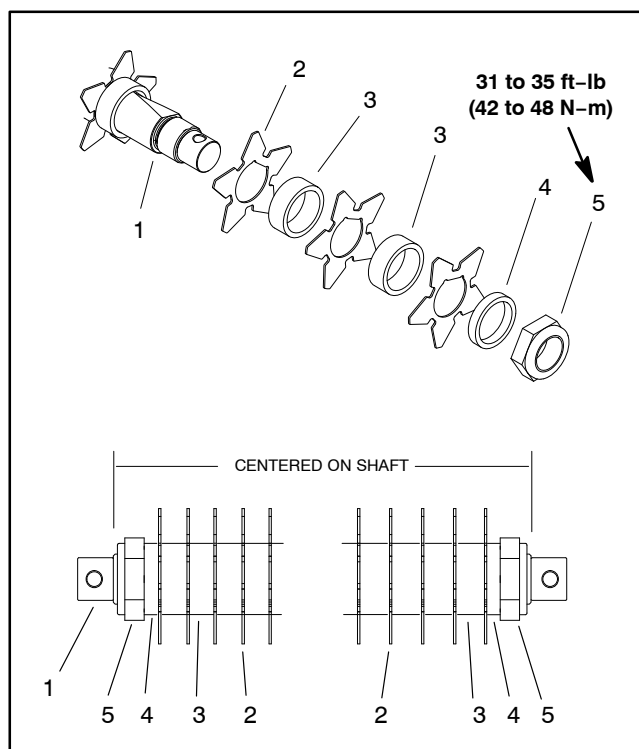

Figure 9
### Disassembly (Fig. 9)
4. Remove lock nut from either end of the shaft (Fig. 9).
### Assembly (Fig. 9)